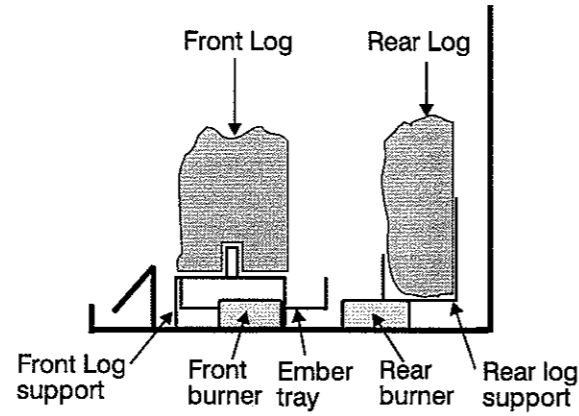

Fig. 15: Side View
- 5) Carefully place the rear log (with **no** cutouts) so it rests on the rear supports (with the flat part of the log to the back) and then push the log flush against the back. Center the log, relative to the rear burner. The knot in the log should sit just to the right of center. See Fig. 15 & 16.
- 6) Place the front log (with the cutouts) on the two front log supports, the log must be even with the front edge of the supports. See Fig. 15 & 16.